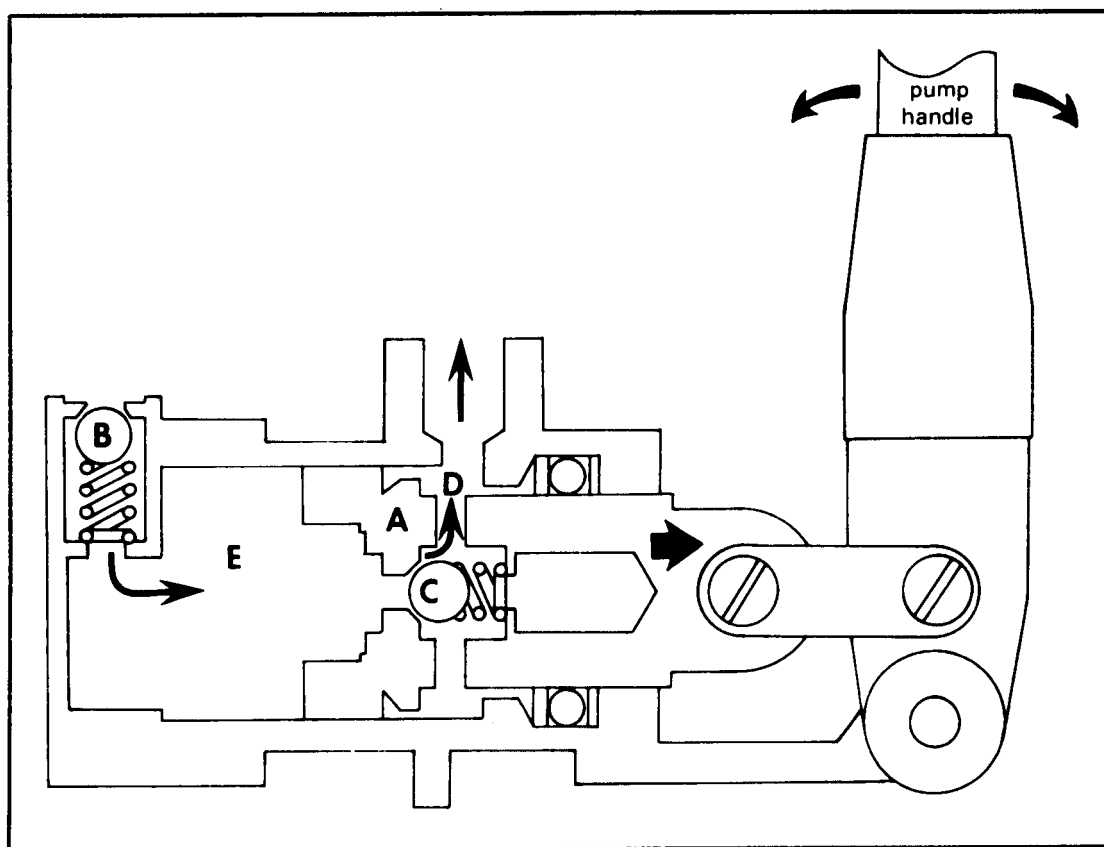

Figure 6-11. Double-action hand pump.
**Operation.** Figure 6-11 illustrates the construction of the double-action hand pump. It consists of a cylinder assembly containing a piston (A) and two spring-loaded check valves (B and C). When the piston moves to the right, the piston check valve (C) is held closed by the spring. The piston forces the fluid in the right chamber (D) out into the pressure line. At the same time, the suction in the left chamber (E) created by the moving piston draws fluid through the inlet-line check valve (B), filling that chamber. When the piston moves to the left, the inlet-line check valve is held closed by the pressure of the fluid in the left chamber. The space available for the fluid in the right chamber is now less than the space in the left chamber. This is caused by the piston rod displacement in the right chamber; with check valve (C) opened, the excess fluid under pressure is driven out through the discharge port of the system.